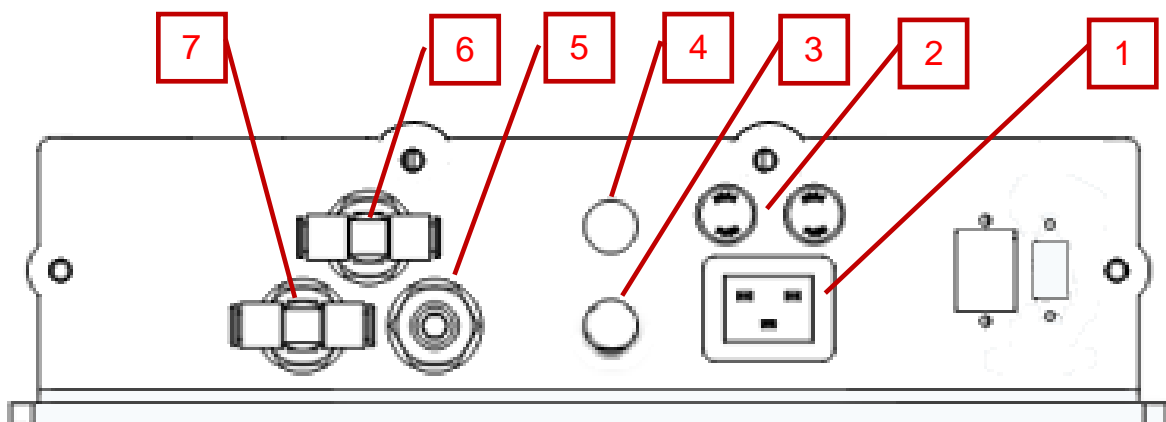

Figure 4: Cee® Apogee® Flange Bake Facilities Connections
3. Connect utilities per the reference diagram in Figure 4: Cee® Apogee® Flange Bake Facilities Connections